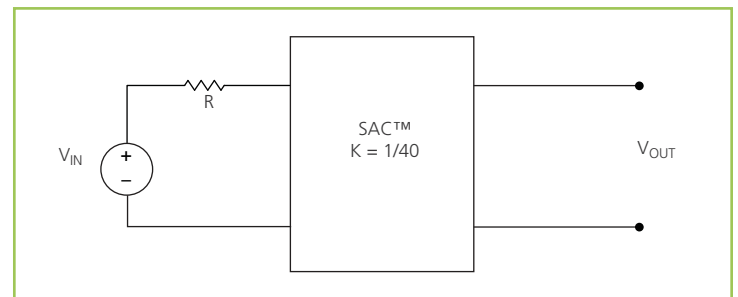

Figure 18 — K = 1/40 Sine Amplitude Converter with series input resistor
The use of DC voltage transformation provides additional interesting attributes. Assuming that $R_{OUT} = 0 \Omega$ and $I_Q = 0 A$, Eq. (3) now becomes Eq. (1) and is essentially load independent, resistor R is now placed in series with V_{IN} as shown in Figure 18.
Assuming that $R = 1 \Omega$, the effective R as seen from the secondary side is $0.63 \text{ m}\Omega$, with $K = 1/40$ as shown in Figure 18.